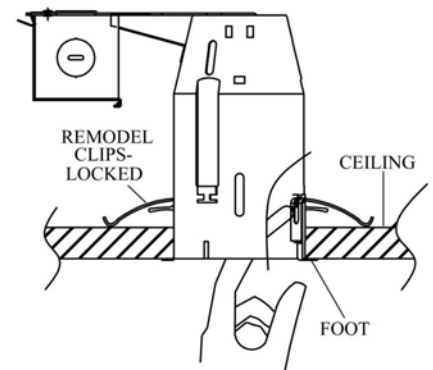

Figure 2
- Tilt fixture junction box up through hole and hold up against ceiling and push retaining clips with screwdriver until they securely snap in place. Check installation that fixture is secure and clips are snapped in place. (Figure 2 & Figure 3)